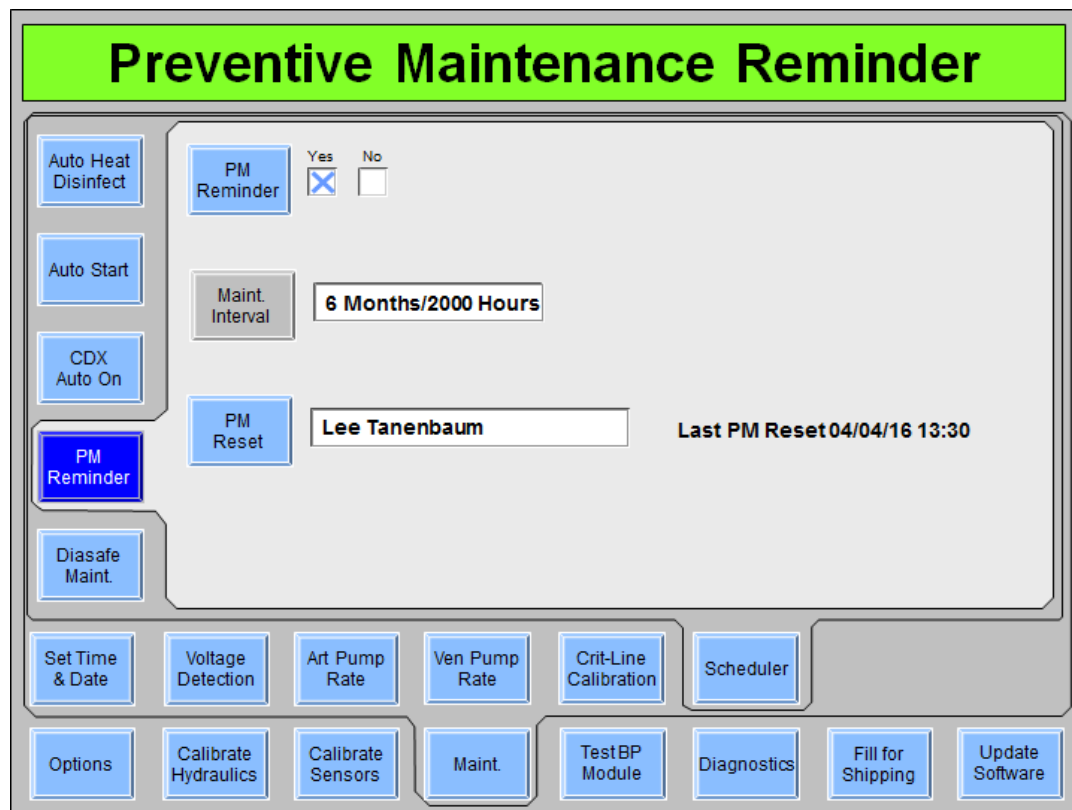

Figure 127 – Scheduler PM Reminder Screen (showing functional software version 2.72 or later)
3. Select the **PM Reset** button and, using the keyboard, enter the technician's name setting the PM reminder then press the **CONFIRM** key. This will reset the six month countdown clock from the last PM date and save the technician's name and date the PM interval was reset (see Figure 127). This overwrites the name and date of the technician who performed the previous PM reset.